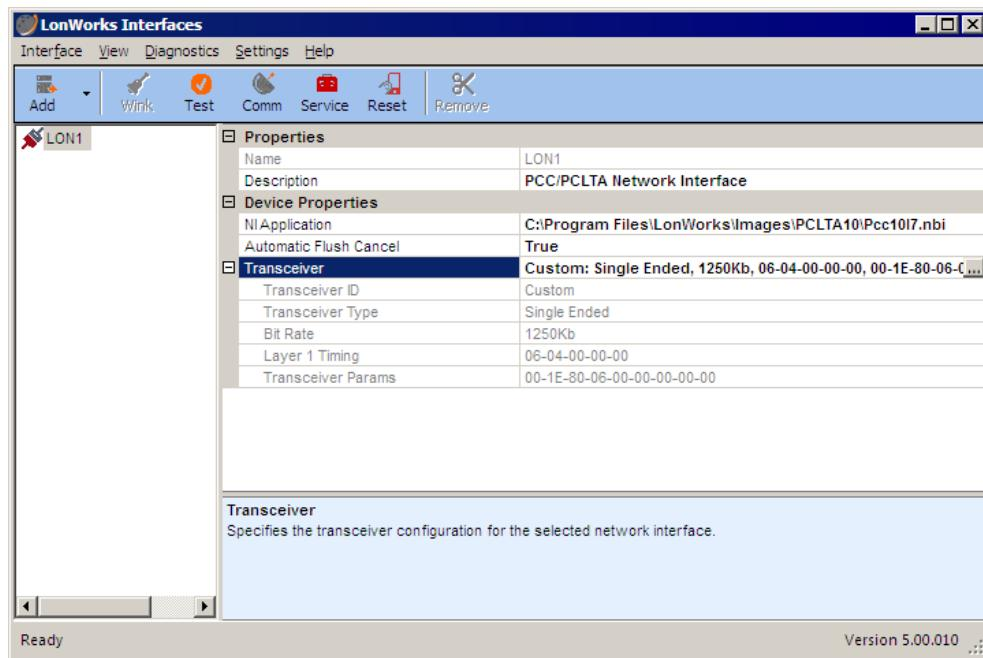

Figure 2: LonWorks Interfaces application
4. Select **Start/Control Panel/LonWorks Interfaces** to open the LonWorks Interfaces application, see Figure 2.